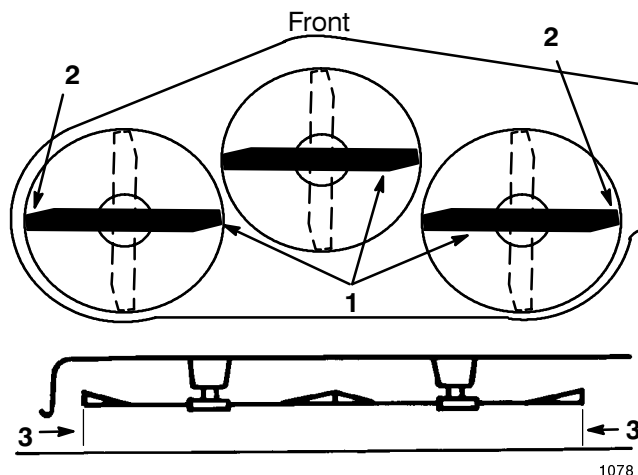

Figure 52
4. Carefully rotate blade(s) side to side (Fig. 52). Measure between the outside cutting edges and the flat surface (Fig. 52). If both measurements are not within $3/16"$ (4.762mm), an adjustment is required; refer to steps 5 and 6.